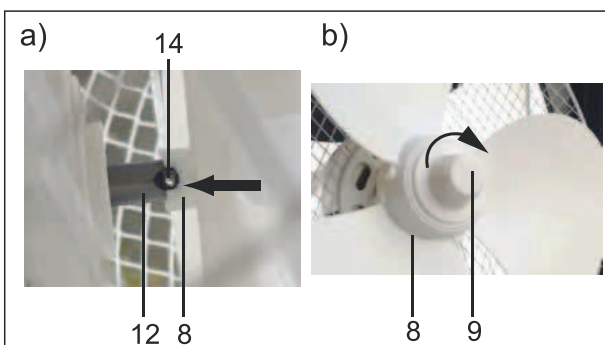

Fig.15: Mounting rotor
6. Push the rotor (8) onto the motor axle (12). *The small transverse axis (14) at the end of the motor axis must lie in the recess of the rotor attachment. See Fig. 15 a).*
7. Place the nut (9) on the rotor.
8. Tighten the nut clockwise. See Fig. 15 b).